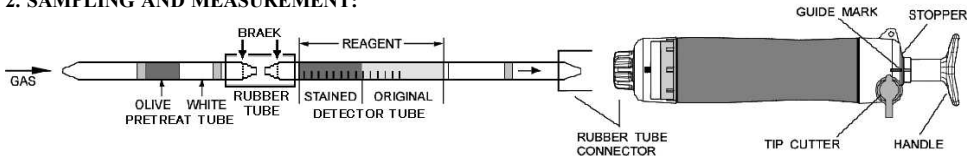

Fig.1
- ① Detector tube and pretreat tube have been connected by a rubber tube, in line. At the measurement, cut both ends of pretreat tube and detector tube. (It is possible to cut the ends in the rubber tube by bending the rubber tube by fingers). Then insert detector tube into the aspirating pump securely as shown Fig. 1. (Arrow mark shall point to the pump).
- ② Insert the detector tube side into aspirating pump securely as shown in Fig. 1. (The arrow mark should point to the pump.)
- ③ Align the guide marks on the shaft and stopper of the aspirating pump.
- ④ Pull the pump handle at half stroke locked position and wait for 2 minutes or until the completion of sampling is confirmed with the flow indicator of the pump (See descriptions about the flow indicator in the instruction manual of the pump).
- ⑤ On completion of sampling, read the scale at the maximum point of the stained layer.